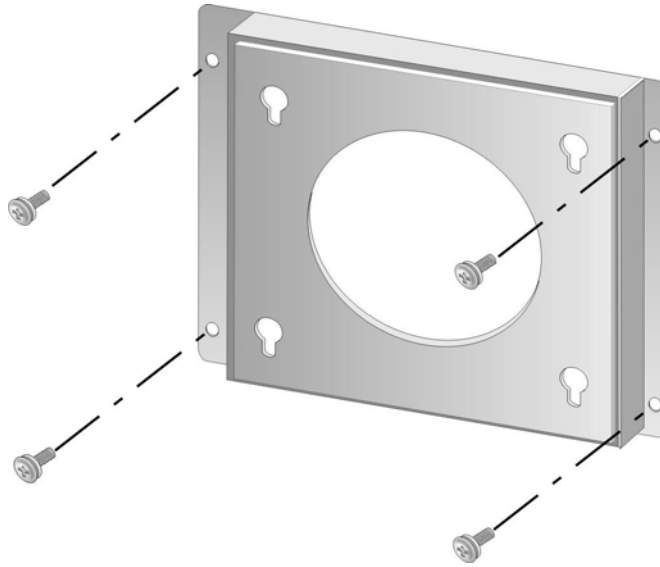

Figure 3-6: Wall-mounting Bracket
Step 5: Secure the mounting-bracket to the wall by inserting the retention screws into the four pilot holes and tightening them (**Figure 3-6**).